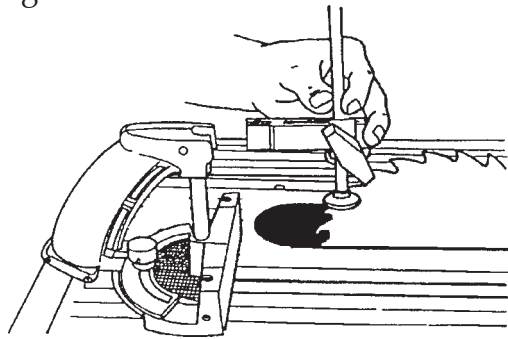

Figure B-73
- 42. Place the miter gauge in the right miter gauge slot, and use a 5/32" Allen wrench to remove the quick clamp from the safety grip, as shown in Figure B-73.